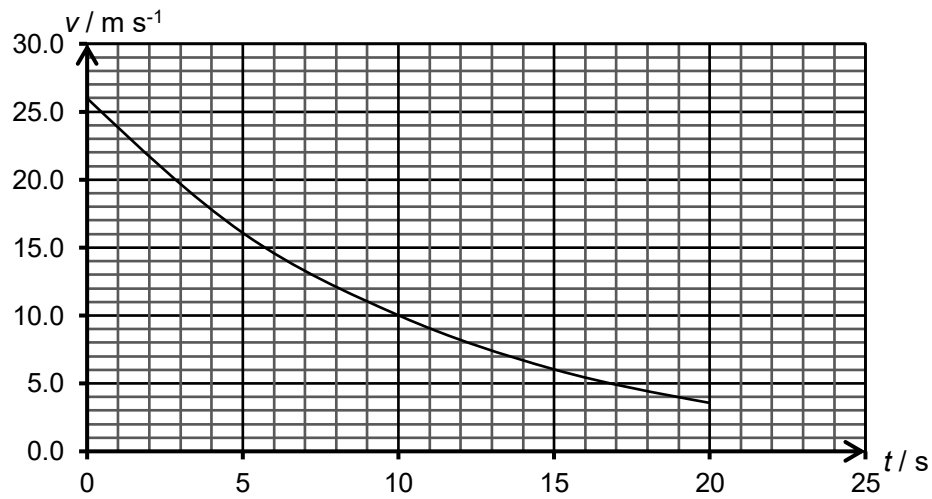

Fig 6.2
- (b) The graph in Fig 6.2 shows the speed of the train carriage as it moves through the magnetic field, from the instant AB crosses line P to the instant CD crosses line Q.
- (i) Use Fig 6.2 to estimate the distance PQ.